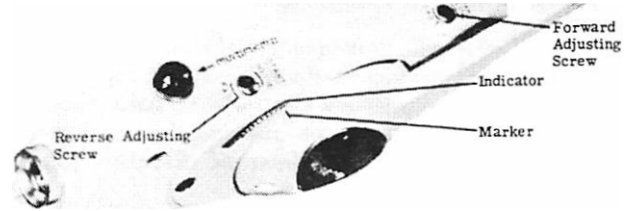

Figure 6. Remote Control Housing
2. Adjust forward limit screw (Figure 6) in control station until engine throttle lever touches front throttle stop on bottom cowl.
First apply 3 adjustment decals (stickers) on control housing in position as shown in Figure 6. Adjustment decal position in Figure 6 are opposite on right hand housing.
4. Now turn adjusting screw in "fast" direction 6 full turns. (Figure 6)
1. With control handle in full forward position, apply "Merconomizer" indicator to box so that edge is in line with marker on handle hub. (Figure 6)